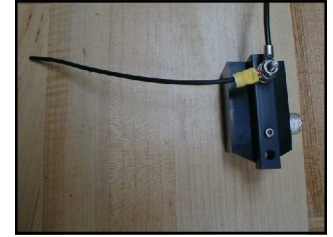

Fig. 2
4. Tuning is most easily accomplished by using an antenna analyzer attached to the far end of the coaxial cable that will be used with the antenna. Alternatively, of course, a suitable VSWR meter may be employed. This should be done at the lowest power setting that yields reliable VSWR readings. With the antenna **in its operating position**, look at the frequency of lowest VSWR on 20M. Most likely this point will be too low requiring you to shorten the antenna. This is done at the matchbox end. As a guide, each inch the bottom end is shortened will raise resonance approximately 30 KHz. After each cutting, restrip the wire and attach it to the matchbox between the 2 #10 flatwashers. When the correct length has been found, slide the 2 pieces of supplied shrink over the wire and solder the wire to the supplied lug. Next, shrink the small piece of tubing while it is butted up against the lug. Position the large shrink tube over the barrel of the lug and shrink it in place. Less desirable methods would be to simply secure the bared wire between the two flatwashers– preferably first tinning the wire to prevent it from fraying. **This is probably not suitable for a permanent installation.** If too much radiator wire was cut off during the tuning process, the included tuning stub may be attached to the 10-32 stud at the matchbox end and trimmed to establish resonance to the desired frequency (Fig.2). **Tighten the #10 hardware just enough to compress the lockwashers.**